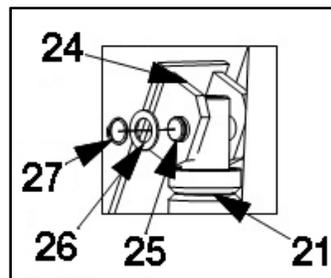

Fig. 11: Install snap ring
8. On the opposite side of the retaining pin [#25], place the other 3/4" washer [#26] onto the retaining pin [#25] and then snap the other 3/4" retaining ring [#27] into the groove on the retaining pin [#25] as shown in Fig. 11.